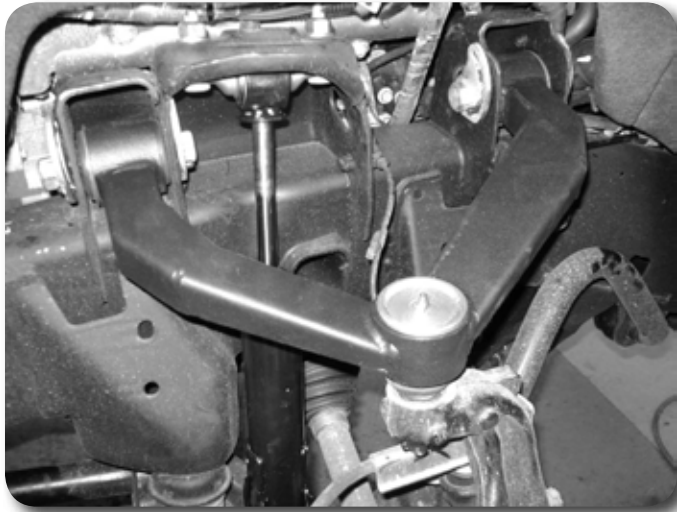

Figure 3
8. Install new upper control arm assembly with factory cam bolts. Arms are side specific. Snug, but do not tighten at this time. Attach the upper ball joint to the steering knuckle with provided nut, washer, and cotter pin. Tighten the upper ball joint nut to 55 ft-lbs before installing cotter pin. **Figure 3**